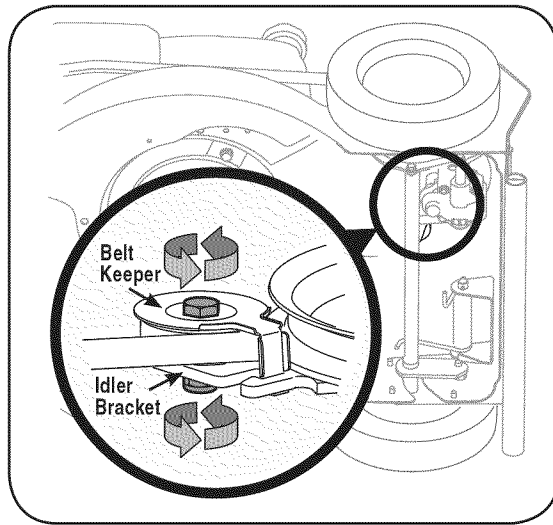

Figure 5-6: Loosen bolt and nut on belt keeper and idler bracket.
- Loosen the belt keeper bolt and lock nut half a turn, Figure 5-6.